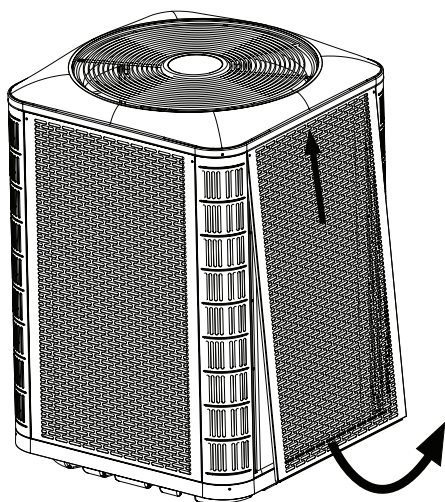
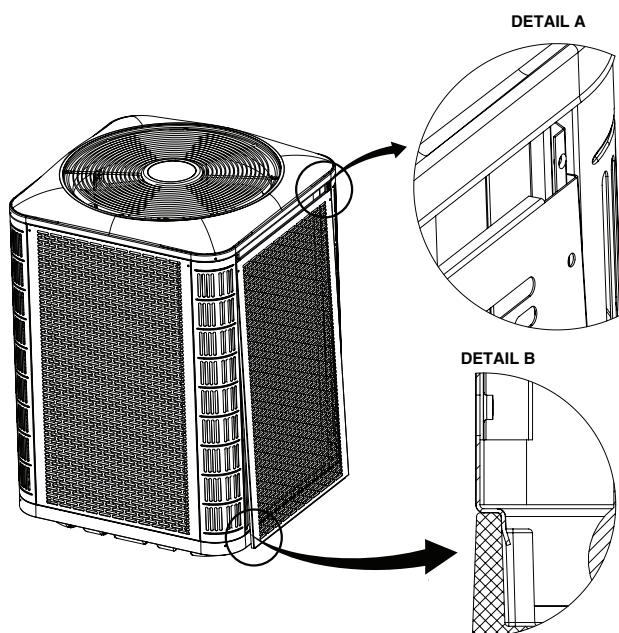

Figure 5. Panel Removal
Figure 6. Panel Installation
- To access the outdoor coil on units equipped with louvered panels, refer to Figure 5, \(page 10\) for panel removal and Figure 6, \(page 10\) for panel installation.
2. Slide the panel up towards the top pan in order to clear the bottom flange from the base pan. See Figure 5.
1. Insert the top corners of side panel flanges into the corner post channels as shown in Detail A in Figure 6.